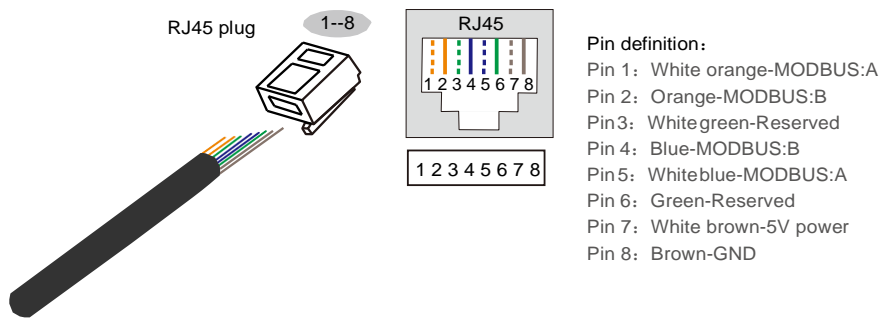

Figure2-13 Pin definition of MODBUS
1. MODBUS port is used for MODBUS serial port communication, which is to communicate with upper computer. MODBUS port adopts RJ45 plug. The pin definition as shown in Figure2-13.